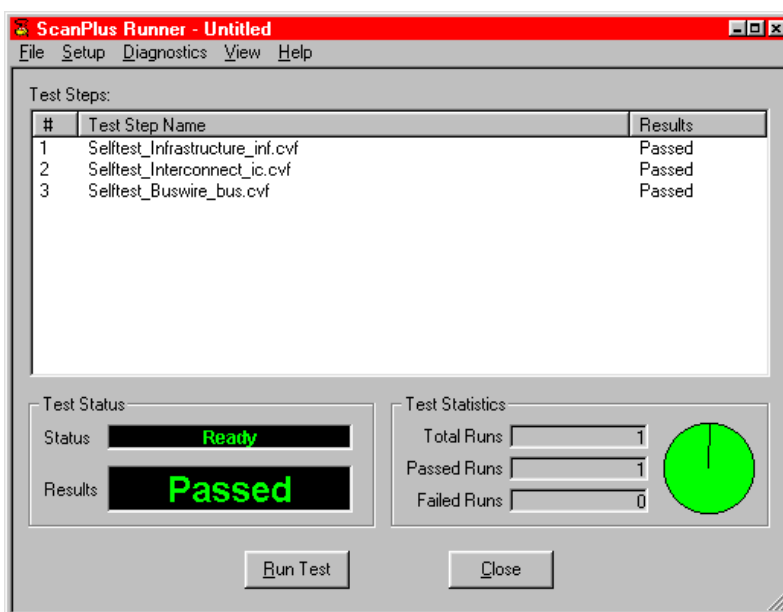

Figure 3-2. ScanPlus Runner Interconnect and Buswire Test
- STEP11. Select *Run Test*. The test should run and pass. Figure 3-2 shows the results of running these tests.